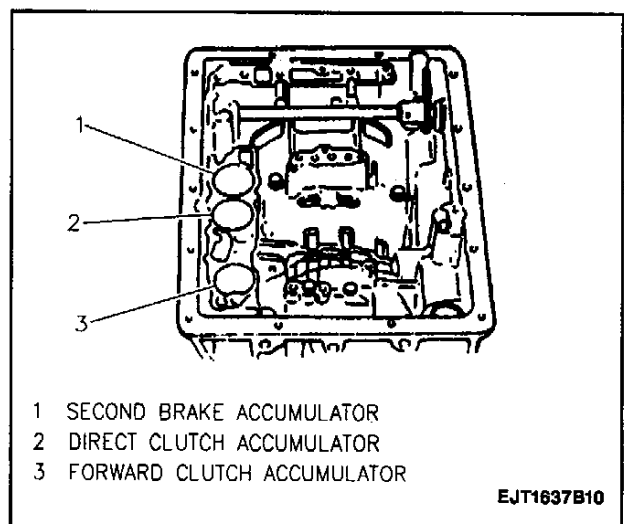

Figure 115—Accumulator Piston Locations (03-72LE, 4-Speed)
4. Accumulator pistons to transmission case (Figure 115).